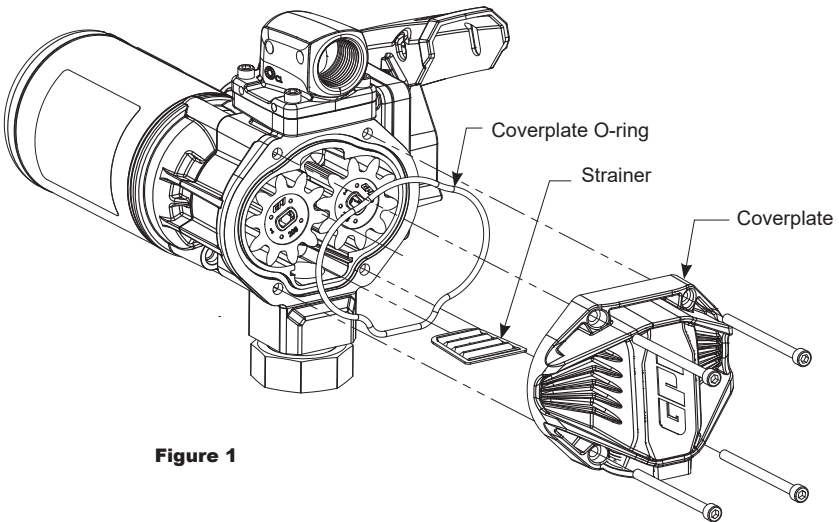

Figure 1
1. Turn the pump off and disconnect from power. Using 5mm hex wrench, remove the coverplate, O-ring, and inlet strainer and inspect for damage or clogs (see Figure 1). Clean the strainer with a soft-bristled brush and solvent. If the strainer is very dirty, compressed air may be used. If damaged, replace the strainer.